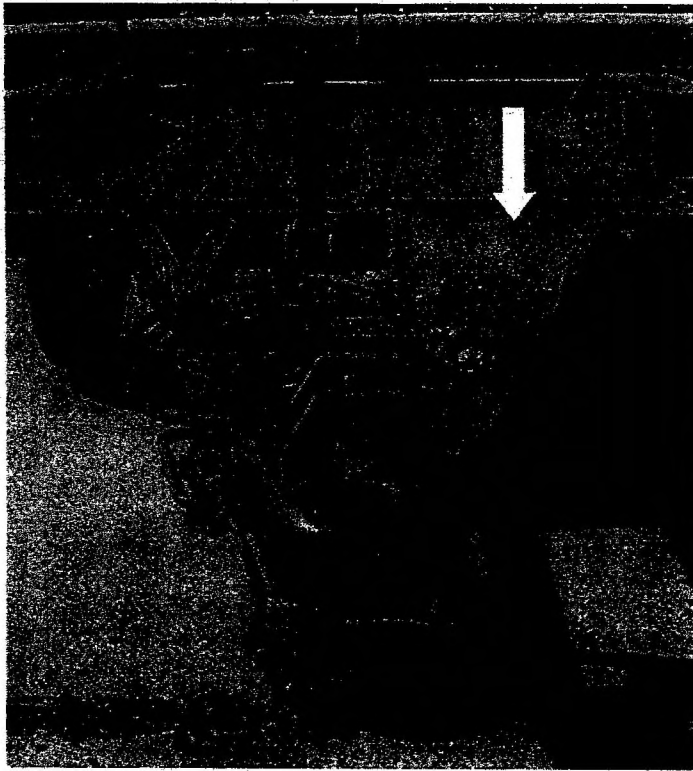

Fig 1 Location of floor plate
- 9.1 Identify the floor plate located on the left hand side of the "A" frame. (See Fig 1.)